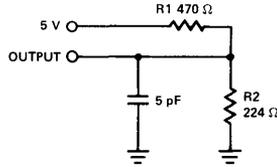

Figure 1b
- Transition is measured at steady state HIGH level - 500 mV or steady state LOW level + 500 mV on the output from 1.5V level on the input with load shown in *Figure 1b*.